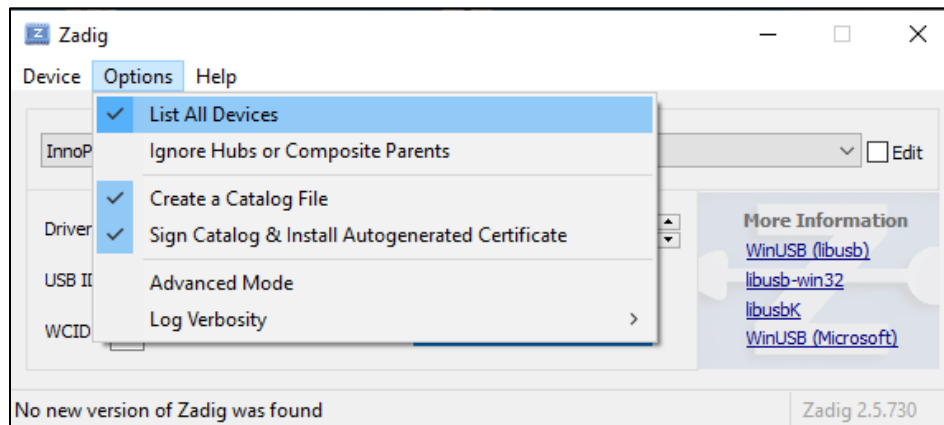

Figure 6: Listing devices in Zadig
4. Uncheck Ignore Hubs or Composite Parents as shown in Figure 6.